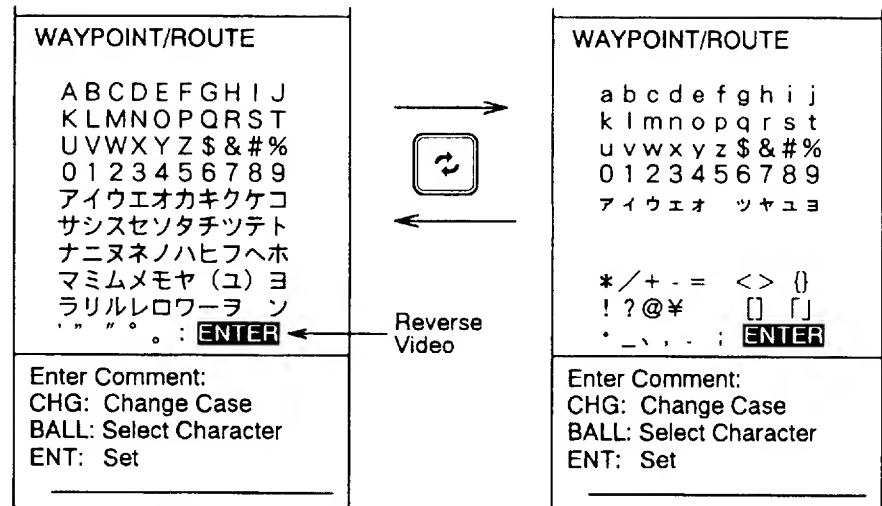

Figure 5-6 Alphanumeric characters available for use in comment for route
- 3) Enter route number; for example, route 02. Press **0**, **2** and **ENT**. The display shown in Figure 5-6 appears and you are asked to enter a comment.